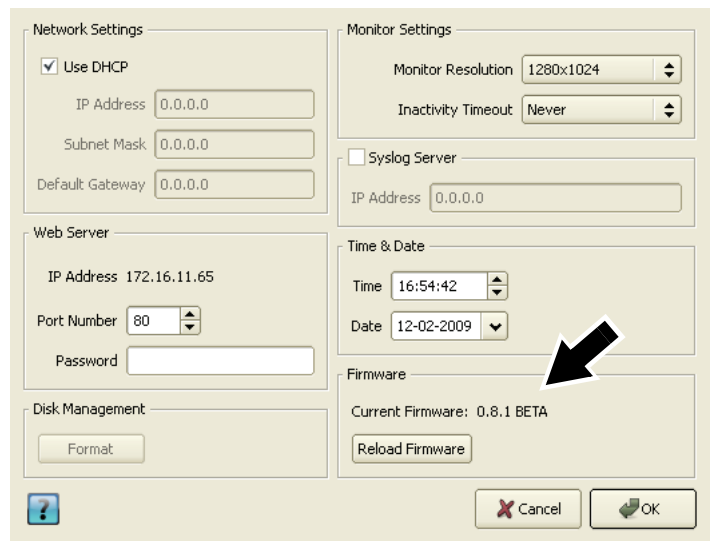

Figure 28: Firmware version and reloading firmware
3. See Figure 28. The current firmware version is displayed in the **Firmware** panel (arrowed). Click on the **Reload Firmware** button and browse to the **p3-100sc-XXX.fw** file on the USB memory device. Click on **Open** and wait while data is copied.
2. See Figure 28. Click on the blue question mark button in the bottom left of the **Hardware Settings** window.
3. See Figure 28 on page 27. If using DHCP, make sure the **Use DHCP** checkbox under **Network Settings** is checked. Otherwise enter static IP address, subnet mask and gateway details.